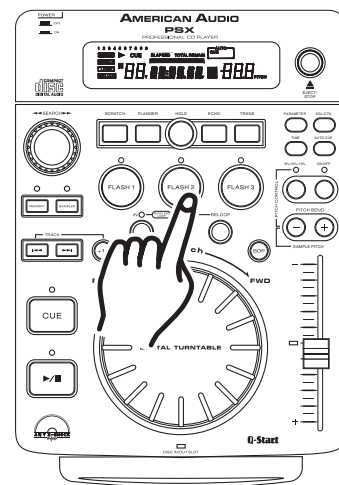

Figure 35
15. CHANGING THE TIME DISPLAY (49, 50, & 51)/TIME BAR (54):
DURING NORMAL PLAYBACK, pressing the *TIME BUTTON* (25), will change the time display information (49, 50, 51, 55, & 57) in the LCD (1) see figure 35. The following is a break down of the time settings and their definitions:
- 1) **ELAPSED** (56) - This describes the time in the LCD (49, 50, & 51) as the current TRACKS Elapse running time.
- 2) **REMAIN** (55) - This describes the time in the LCD (49, 50, & 51) as the current TRACKS remaining running time.
- 3) **TOTAL REMAIN** (55) - This describes the time in the LCD (49, 50, & 51) as the disc total remaining running time.